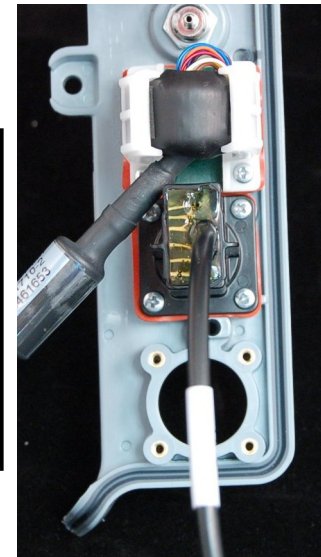

Figure 8.146—Temperature cable parts and screw locations
1. Place the temperature connector and new gasket (REF M30) into the second connector mounting hole up from the bottom of the parameter bezel. Secure the temperature connector with four new screws (REF F08); torque to 6.8 in-lb. (See Figure 8.146 on p. 374 for connector orientation.)